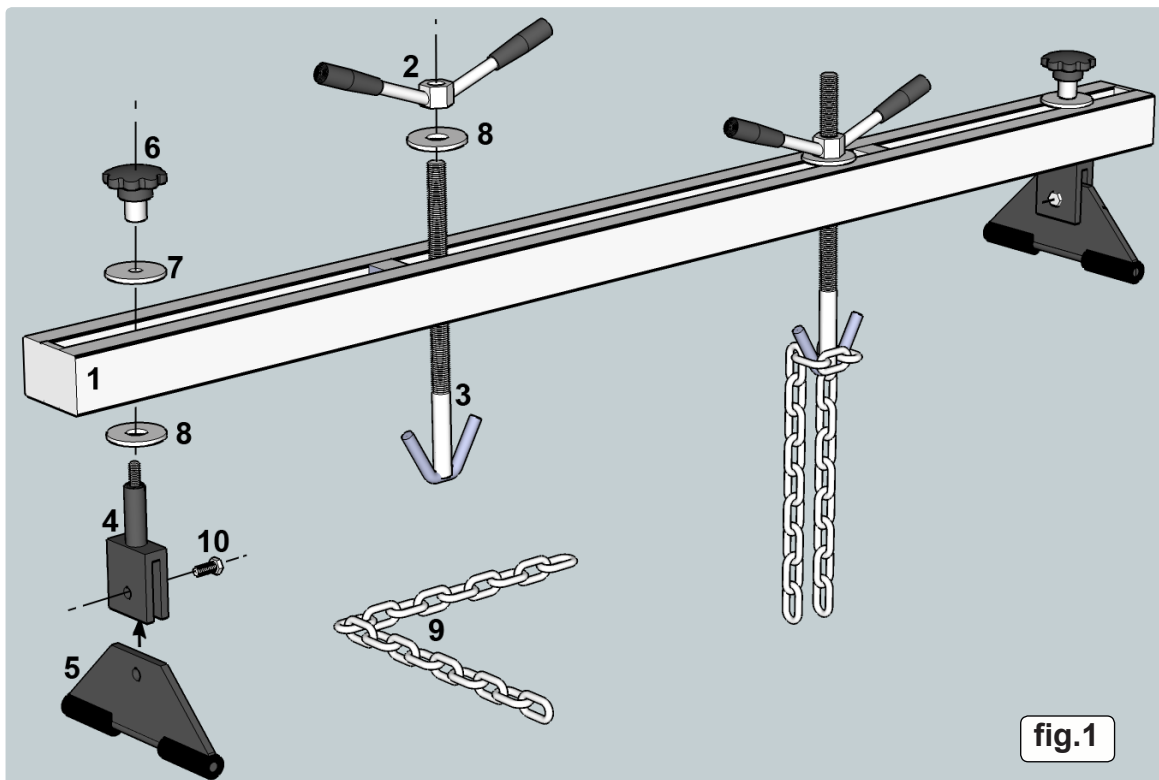

fig.1
Note: Numbers in brackets refer to item numbers shown in fig.1
- 3.2. Place a large washer (8) over the upstanding rod on the standing block
- (4) and insert the rod through the slot in the main support guide from underneath. Place a large washer (7) over the thread on top of the rod and secure the assembly to the main support guide by screwing on a grip knob (6) as shown in fig.1. Assemble the other foot/standing block and fix the assembly to the other end of the main guide beam in the same way.